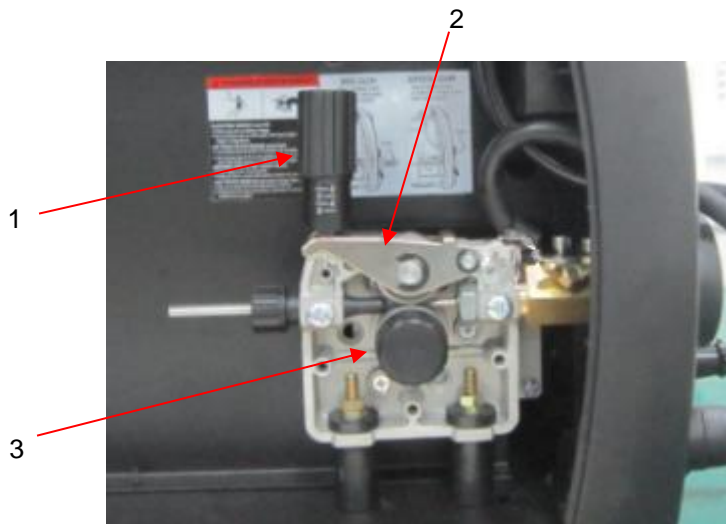

Figure 2
3. INSTALL THE WIRE ROLLER - The wire roller has been factory installed. However, check to make certain the correct wire groove is in place to accommodate the size of wire you are using. Open the wire feed compartment. Adjust the drive roller according to the following steps. See Figure 2 about the wire feeder structure: